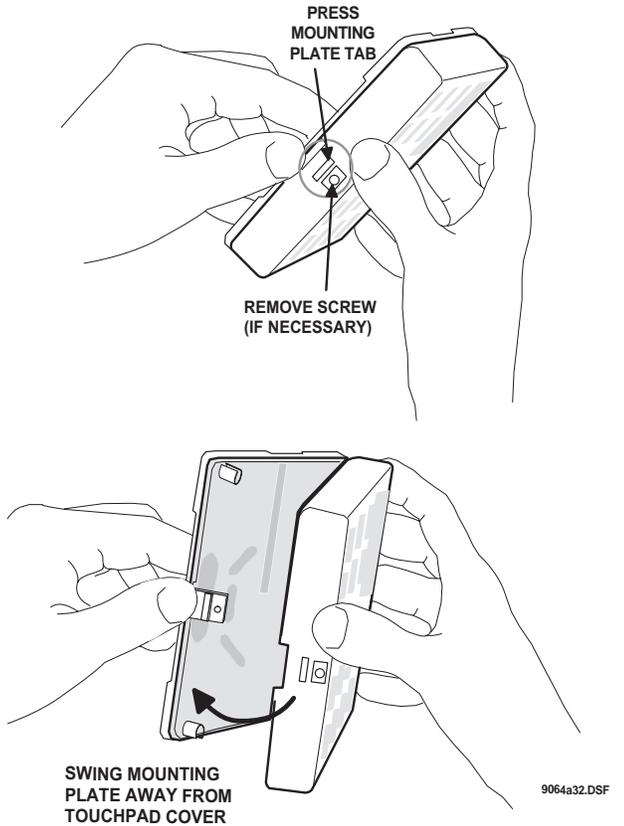

Figure 1. Separating the Touchpad from the Mounting Plate
1. Separate the mounting plate from the touchpad by first removing the screw, if necessary. Then press in the tab at the bottom and swing the mounting plate away from the touchpad cover (see Figure 1).